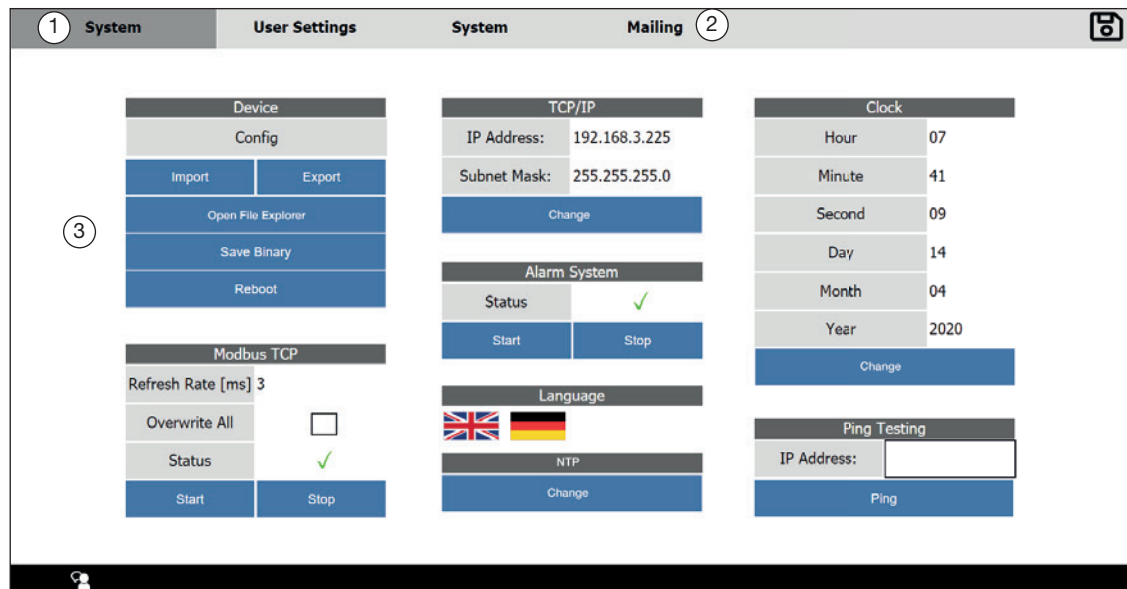

Fig. 10: System settings
2. Use the *Open File Explorer* (Fig. 10) button to open the file system.
7. Paste the file here using the *Editor* (2).